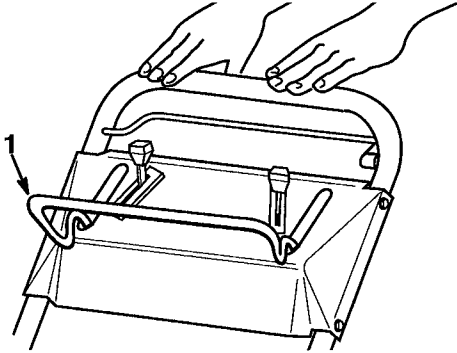

Figure 15
1. Release blade control bail (Fig. 15). Both the engine and blade will stop. See your dealer immediately if they do not.